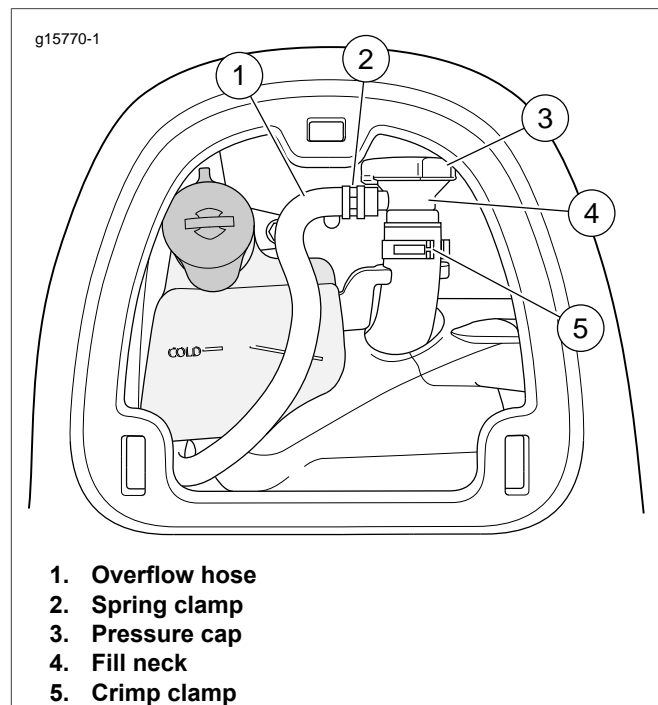

Figure 1. Fill Neck
4. See Figure 1. Pull fill neck from retainer on coolant bottle. Remove pressure cap. Retain cap for assembly.
6. Remove overflow hose (1) from fill neck.
7. Cut and remove clamp (5). See the service manual.
1. See Figure 1. Place **new** clamp (5) over fill hose.
2. Install **new** fill neck (4) with overflow fitting facing toward the coolant bottle.
3. Crimp the clamp (5). See the service manual.
4. Install the overflow hose (1). Secure with spring clamp (2).